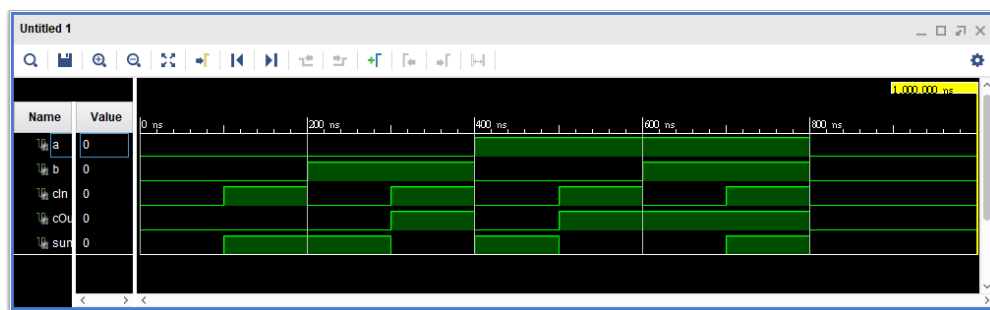

Figure 17. Simulation Results: Adder1_tb.vhd
- f. Click the *Run Simulation* under the *SIMULATION* task of the *Flow Navigator* pane. Select the **Run Behavioral Simulation** option. The simulation results are shown in Figure 17.